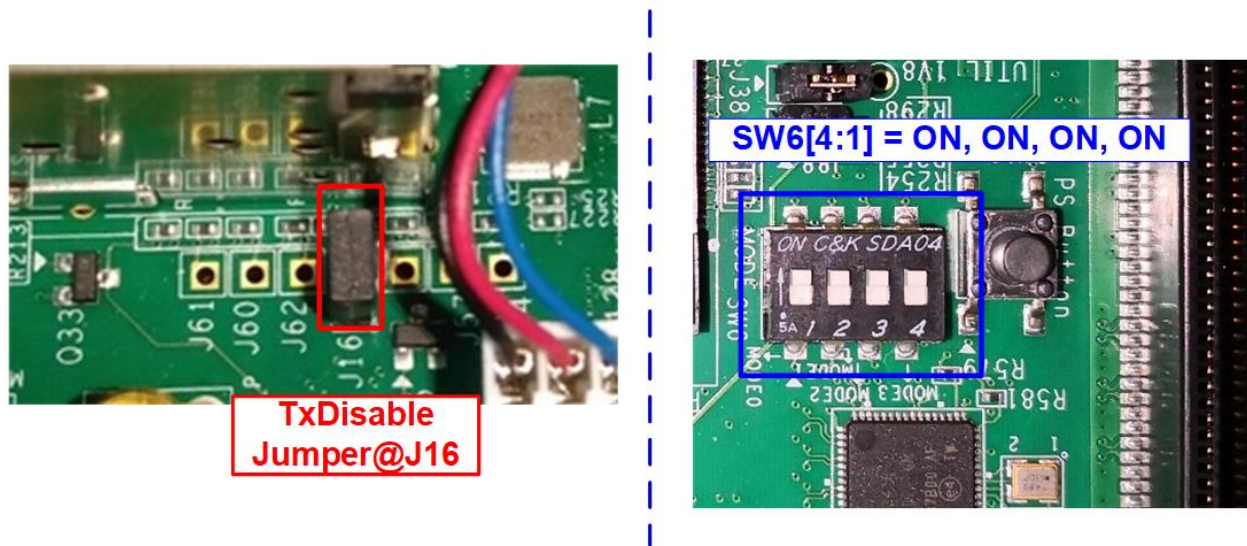

Figure 2-1 ZCU102 board setting
- 1) Check DIPSW and jumper setting on FPGA board as shown in Figure 2-1.